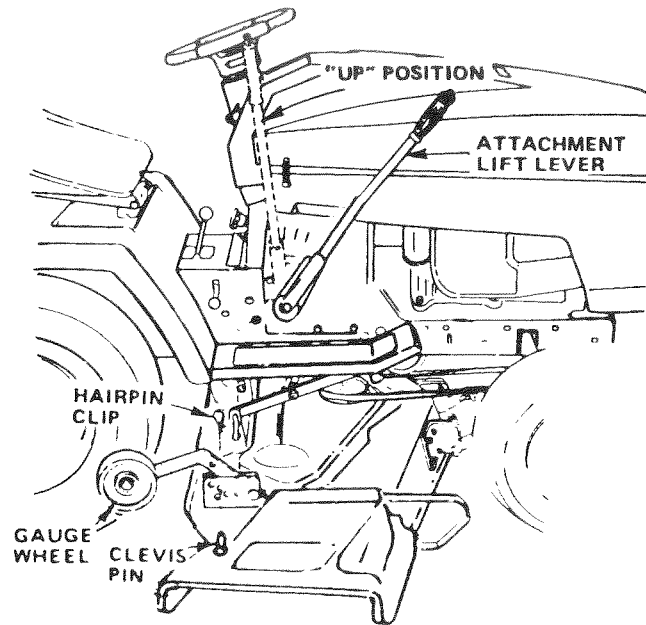
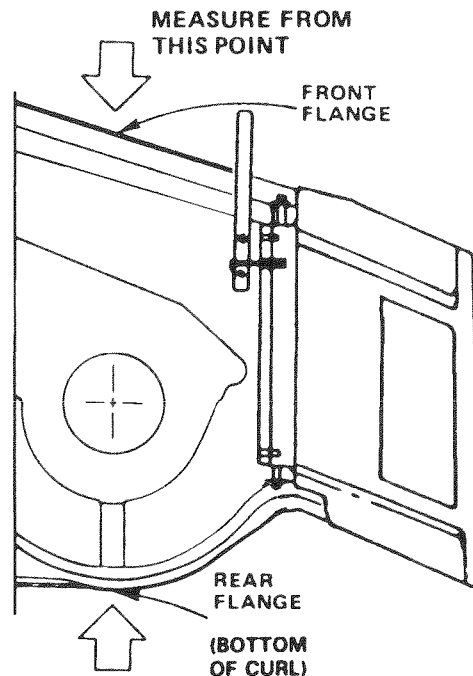

FIGURE 39
FIGURE 41
1. Use a ruler to make sure bottom of curl at REAR of mower deck are the same height from the ground on each side. Measure from points indicated w/arrows (Fig. 41).
3. Move Attachment Lift Lever to full "UP" position (Fig. 39).
Move Attachment Lift Lever to full "UP" position (Fig. 39). After leveling side to side, measure Bottom of Curl at R.H. Front Flanges at FRONT AND REAR OF MOWER. The Front Flange should measure 3/4" lower than at the REAR flange (Fig. 41). If adjustment is required, follow procedure below.
With mower deck at desired height, set Gauge Wheels (Fig. 39) to lowest position without touching the ground.
Adjust Lift Lever to set mower at the approximate cutting height you need. Use Clevis Pins (Fig. 39) to set gauge wheels at lowest point without touching the ground.